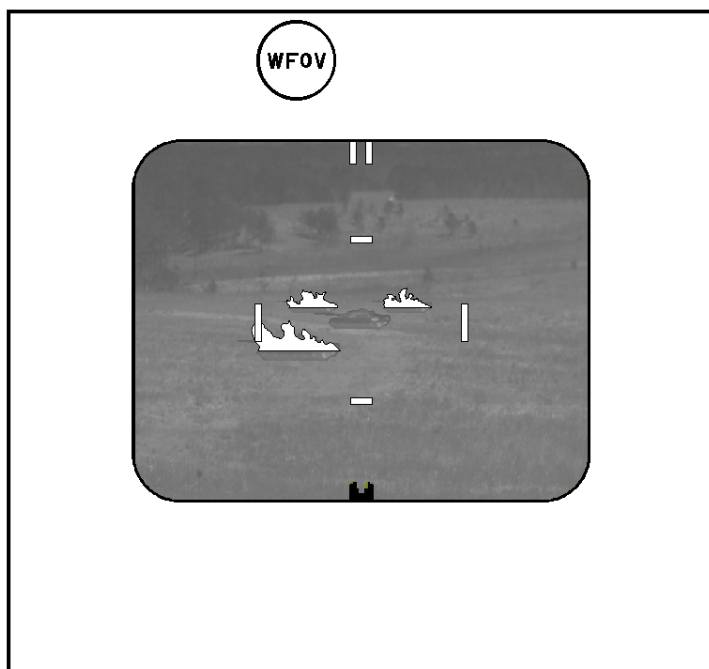
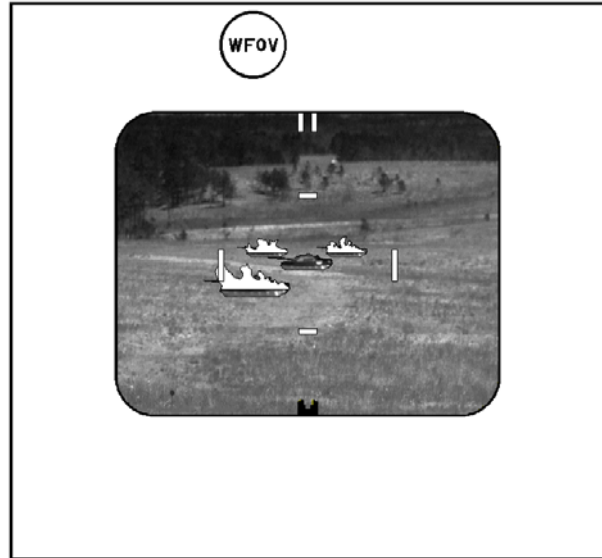

Figure E-29. Counteracting man-made clutter Step 1—adjust brightness.
Figure E-30. Counteracting man-made clutter Step 2—adjust contrast.
- Corrective action. The gunner must change the contrast and brightness based on the appearance of the target. The gunner should start by adjusting the brightness first (Figure E-29), then the contrast (Figure E-30, page E-20). The gunner does this until he has a good target scene. Although the gunner may be able to counter the effects of IR clutter in the NVS (WFOV or NFOV) by adjusting the contrast and brightness, he may not be able to see the target in seeker FOV. If the corrective action does not work the target scene and allow the gunner to acquire the target, he should do the following: